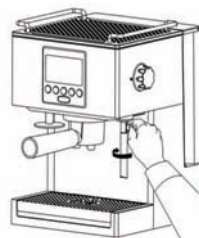

Fig. 9
**CAUTION!** If there is not enough water in the water tank (1), the nozzle (11) will not produce hot water. The indicator  will flash on the display panel and you will hear a repeating sound signal informing you about the necessity to fill in water. Make sure to turn the water off turn the steam control (13) to **OFF** position, i.e. turn it clockwise, so the sign **OFF** will cover the marker on the casing of the espresso machine. Open the water tank cover (1) and pour in the water. After replenishing water, the sound signal will stop. To continue with the hot water mode turn the steam control (13) to position , i.e. turn it counterclockwise, so the sign  will cover the casing of the espresso machine.
**CAUTION!** Moving the steam/hot water nozzle (11) is possible only by means of a special attachment (Fig. 9). The steam/hot water nozzle (11) is extremely hot.
**CAUTION!** If there is not enough water in the water tank (1), the nozzle (11) will not produce hot water. The indicator  will flash on the display panel and you will hear a repeating sound signal informing you about the necessity to fill in water. Make sure to turn the water off turn the steam control (13) to **OFF** position, i.e. turn it clockwise, so the sign **OFF** will cover the marker on the casing of the espresso machine. Open the water tank cover (1) and pour in the water. After replenishing water, the sound signal will stop. To continue with the hot water mode turn the steam control (13) to position  | , i.e. turn it counterclockwise, so the sign  |  will cover the casing of the espresso machine.